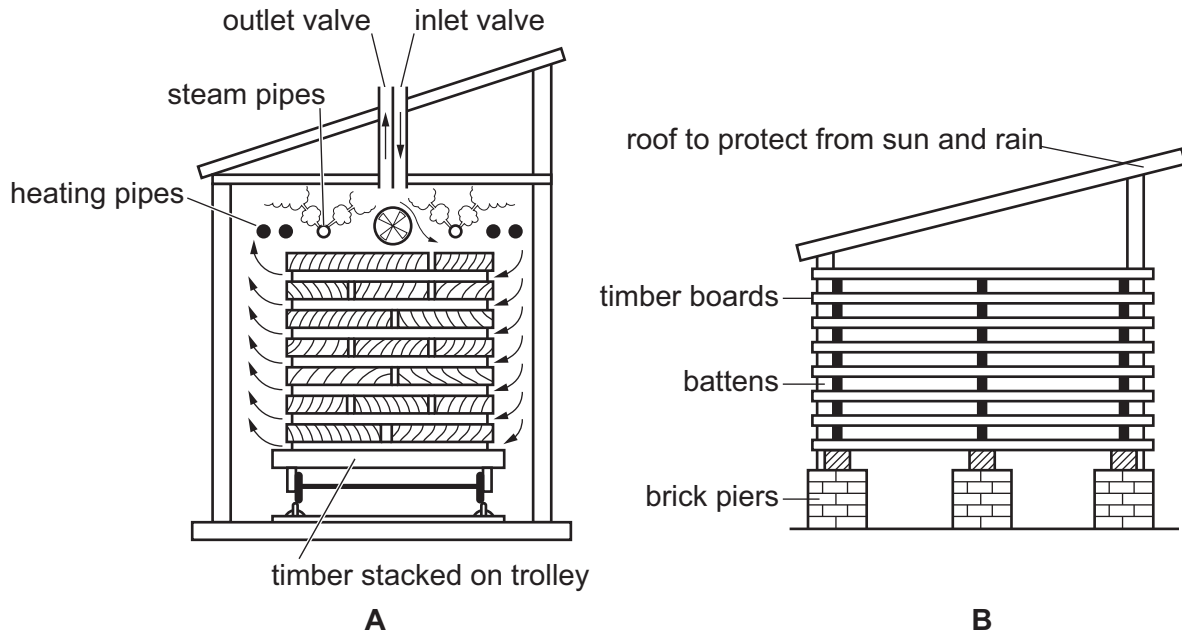

Fig. 1.1
- 1 Fig. 1.1 shows two methods of seasoning wood. Method **A** is kiln seasoning. Method **B** is open-air seasoning.